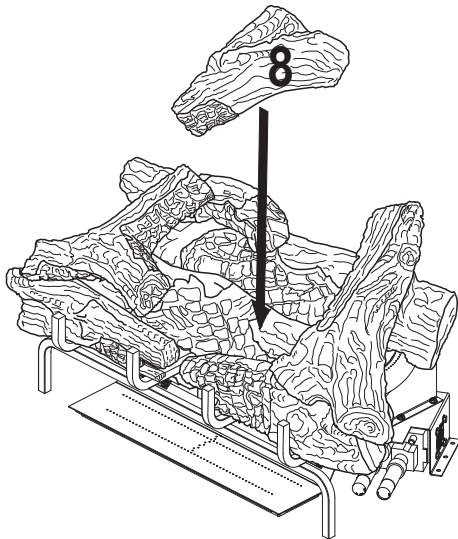

Figure 35 - Installing Log # 8
8. Match the round hole on the bottom of the center crossover log (#8) with the metal pin on the top of the right crossover log. Rest the front of the center crossover log on top of the front right log and against the grate. See **Figure 35, Page 20** for final assembly.